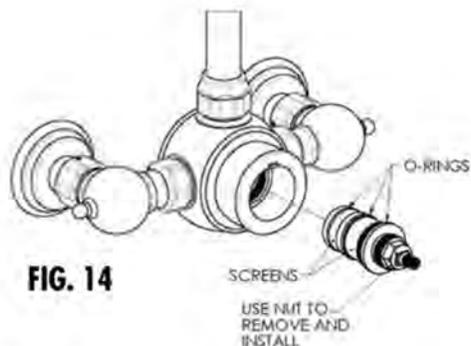

FIG. 14
4. Use a ratchet and deep socket or other suitable wrench to loosen the cartridge from the valve body (fig. 14).
5. Pull the cartridge straight out of the valve (fig. 14).